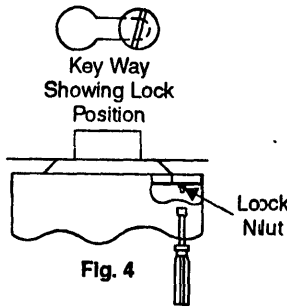

Fig. 4
- Mount cylinder to reveal cap by passing lock nuts on reveal cap through key ways in cylinder top and twisting housing counter-clockwise so that the lock nuts move into the locked position of the key ways as shown in Fig. 4 being careful not to entrap wires between reveal cap and cylinder housing.